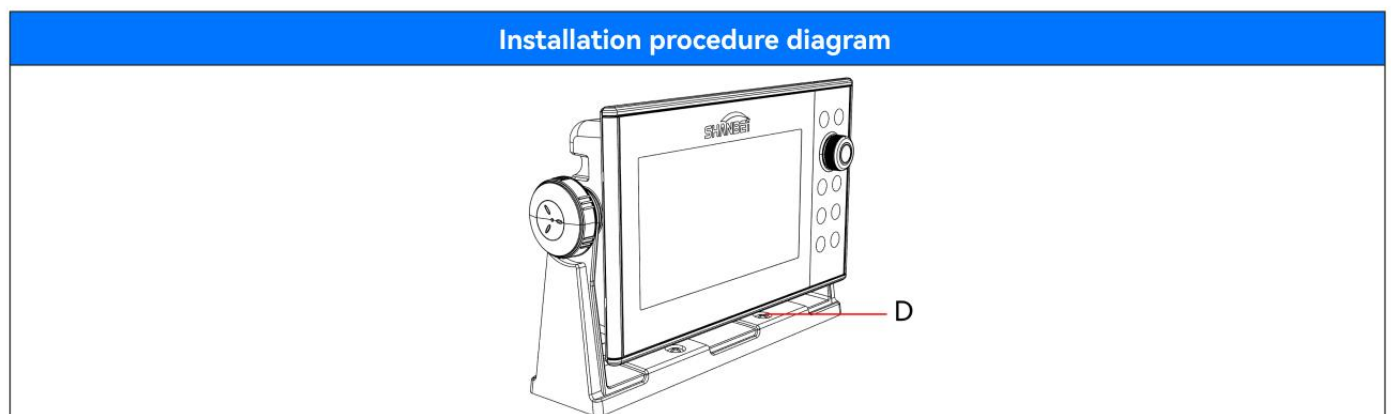

Figure 3.3
1. Install the screws in hole D as shown in Figure 3.3, and fix the multi-function display unit and bracket on the table.